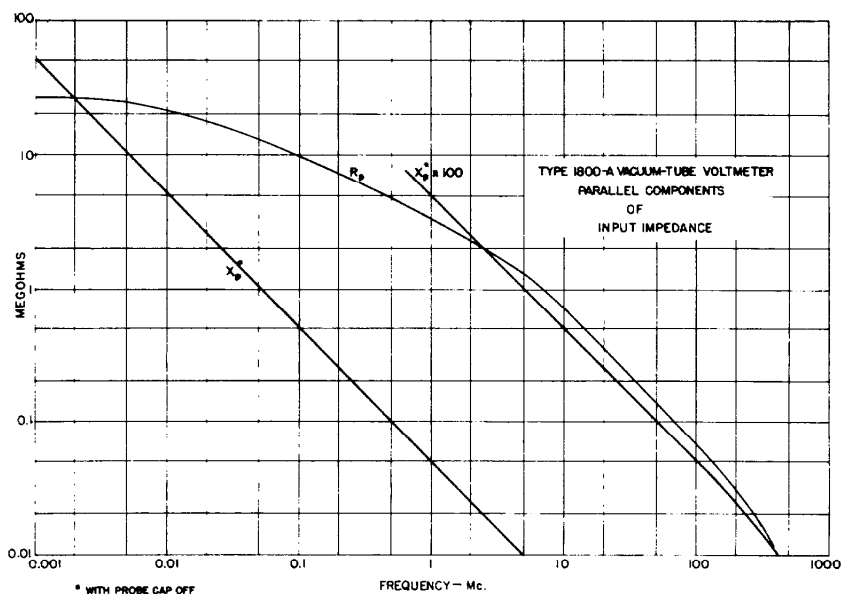

Figure 6. Plot of impedance versus frequency for the parallel components of input impedance. The equivalent parallel capacitance is $3.1 \mu\mu\text{f}$.
3.05 Input Impedance: The equivalent a-c input circuit is a resistance in parallel with a capacitance. At low frequencies, the equivalent parallel resistance is 25 megohms. At higher frequencies this resistance is reduced by losses in the shunt capacitance. The equivalent parallel capacitance at radio frequencies is $3.1 \mu\mu\text{f}$ with the probe cap and plug removed. At audio frequencies this capacitance increases slightly. The probe cap and plug add approximately $1.2 \mu\mu\text{f}$. Figure 6 gives the variation of R_p and X_p with frequency.